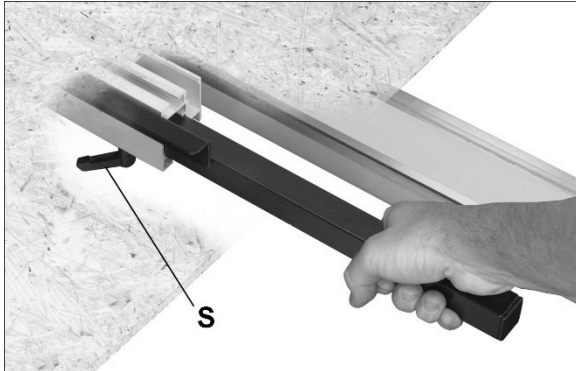

Figure 9-3
6. For large panels with fence in rear position, loosen handle (S, Figure 9-3) and pull out fence extension bar. Tighten bar in position, and use it to help push panel through the cut.